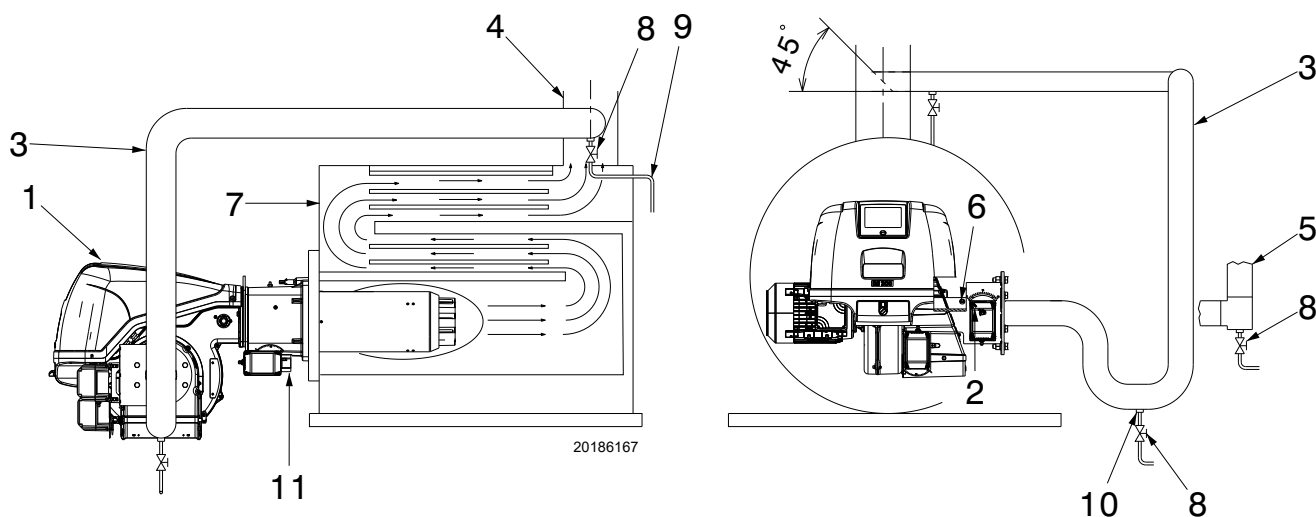

Fig. 18
- Normally the duct would connect to the stack as shown in Fig. 18, with a 45° cut facing the flue gas flow and with the center of the cut centered in the stack.
### Key (Fig. 18)
kW	Flue gas pressure intake 6)(Fig. 18)